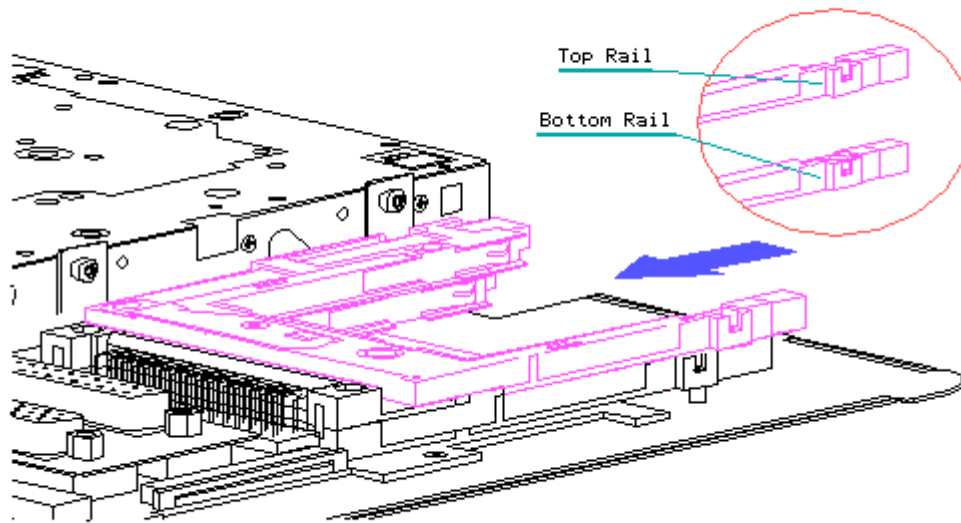

Figure 3-62. Installing the PCMCIA Ejector Rails
1. Install the new ejector rails (Figure 3-62).